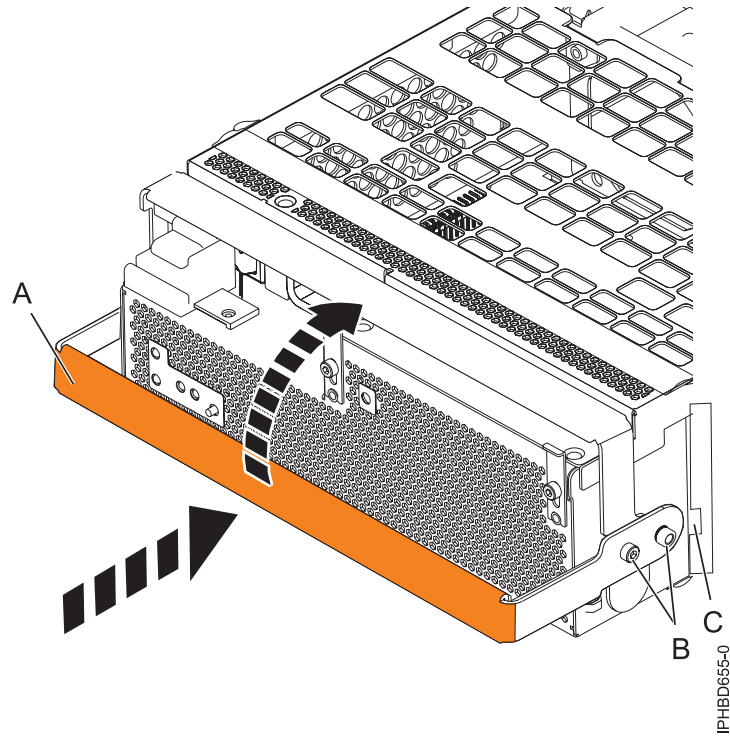

Figure 83. Replacing a power supply
11. To replace the power supply, with the locking handle (A) in the open position, push the power supply into the expansion unit as shown in Figure 83 on page 99.
12. Close the locking handle (A) until the power supply locks into position.